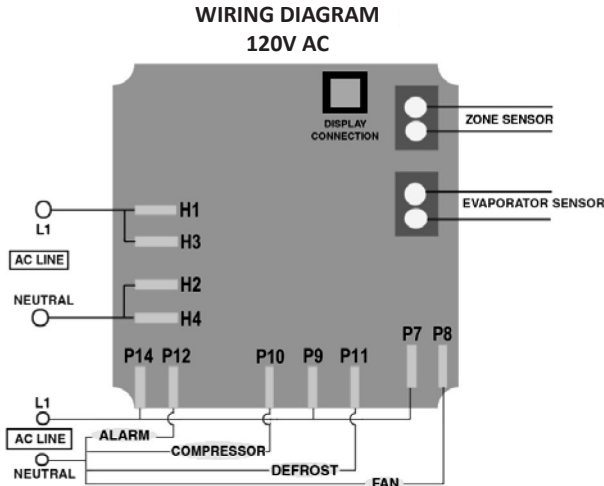

Figure. 7
2. The terminals in the middle are used to change the voltage of the unit. Refer to the wiring diagram (Figures 7 and 8) to see how to connect the jumpers for 120V AC or 208-240V AC